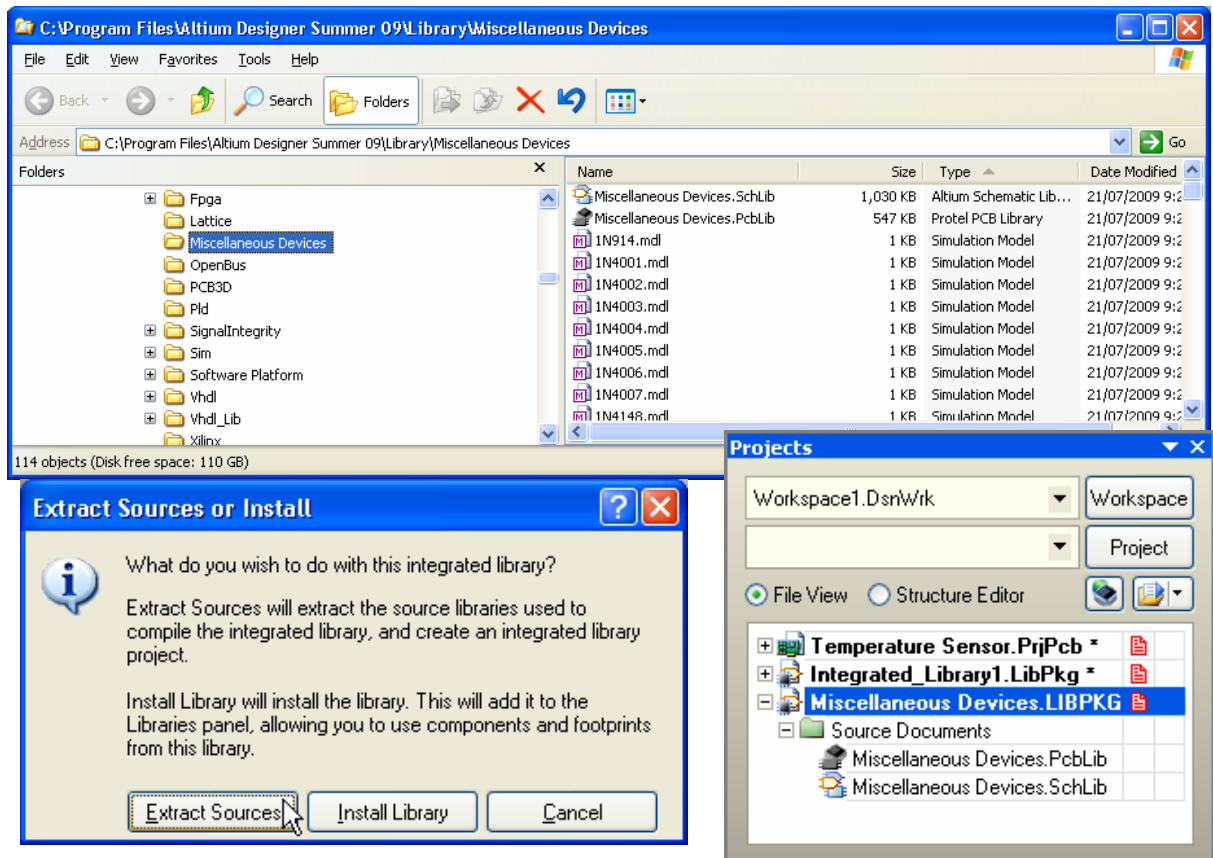

Figure 19. Result of extracting the contents of the integrated library, Miscellaneous Devices.
- Although the integrated library is compiled, the source libraries can be extracted if necessary. When you attempt to open an Integrated Library (like a file, instead of installing it in the Libraries panel like a library), you will be asked if you wish to extract the sources, as shown in Figure 19.